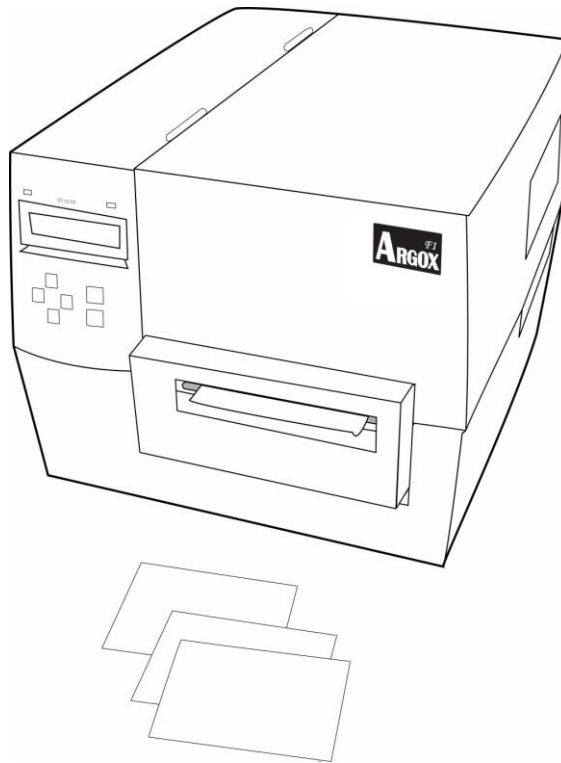

Figure 16
9. Turn on the printer or press the “FEED” button if the printer is already on. (Figure 16)